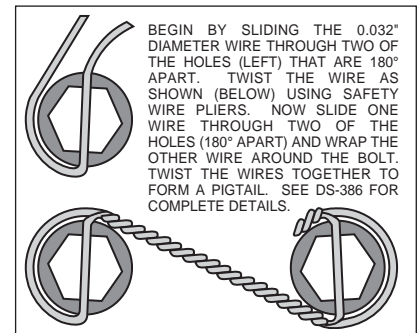
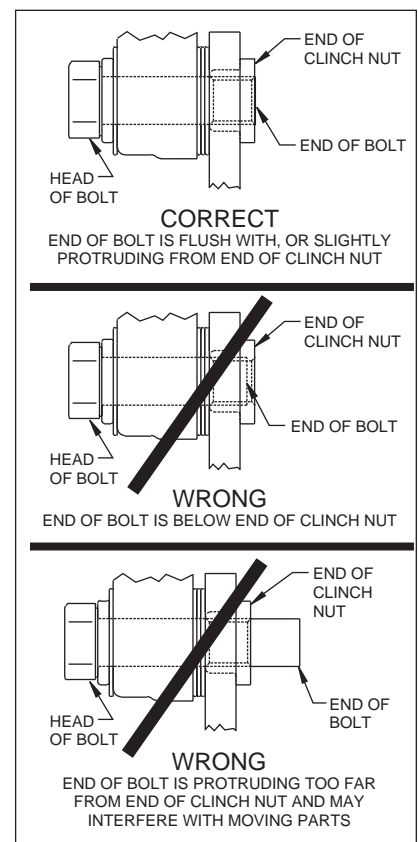

Figure 4. Safety Wire Diagram
Figure 5. Clinch Nut Engagement Diagram
- The rotor (3) has two sides. A flat side and an inset side. Bolt hat (2) to flat side of rotor (3) using bolts (5). Using an alternating sequence, apply red *Loctite*® 271 to the threads and torque bolts (5) to 25 ft-lb. For an added measure of security, the bolts may be safety wired using standard 0.032 inch diameter stainless steel safety wire as shown in Figure 4. Please refer to Wilwood's data sheet DS-386 (available at www.wilwood.com/Pdf/DataSheets/ds386.pdf) for complete safety wire installation instructions.
- Align the correct hole pattern in the hat (2) with the stud pattern on the axle flange. **NOTE:** Some OEM and after market axles come with stud sizes larger than 0.50" diameter. Verify stud size and have a qualified machine shop drill the hats to the correct size. Slide the hat/rotor assembly (2 and 3) over the wheel studs and against the axle flange face.
- NOTE:** Please reference the caution statement at the beginning of the assembly instructions. Mount the caliper (6) over the rotor (3) and onto the caliper mounting bracket (1) using washers (7) and mounting bolts (8). View the rotor through the top opening of the caliper. The rotor should be aligned in the center of the caliper. If not, adjust the caliper by using 0.032 inch shims (9) by placing them between the caliper mounting bracket (1) and the caliper (6). Add as many shim washers (9) as necessary to achieve the correct alignment. **NOTE:** The end of the bolt must be flush with or slightly protruding from the head of the clinch nut. See Figure 5. Place spare shims (9) between washer and caliper mounting ear to achieve the proper mounting fastener configuration. Always use the same amount of shims on both the top and bottom caliper mounting bolts (8). Apply red *Loctite*® 271 to the mounting bolt threads (8), torque to 40 ft-lb. Caliper mount bolts may be safety wired for additional security.
- Position the Wilwood disc brake pads (10) into the caliper (6) and fasten with cotter pin (4). Steel backing plate side of brake pad should face the caliper pistons.